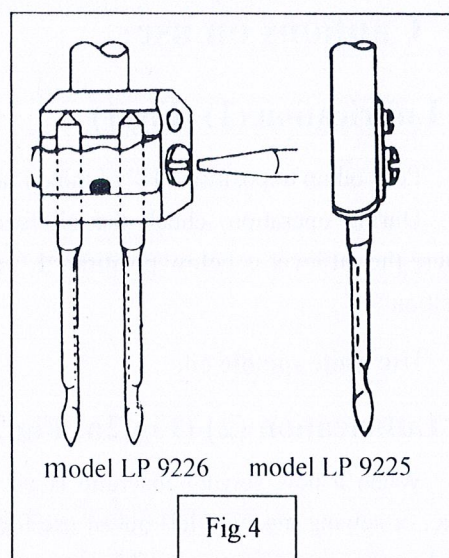

Fig. 4
1. How to attach needle (Fig.4):